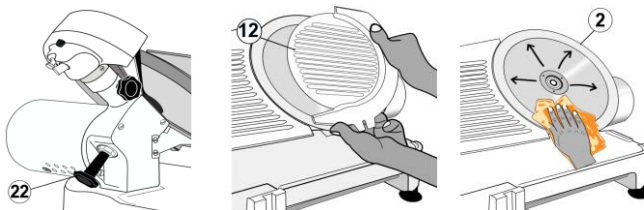

FIG 9. STEPS FOR KNIFE CLEANIG
C. KNIFE (See Fig. 9).
- 1.- Loose the knife guard knob (13) by turning it counter clockwise. Knob's at the backside of slicer.
- 2.- Remove the knife guard (4) (lifting up using both hands).
- 3.- With **extreme caution**, wipe all the knife (5) towards outside (from center). Spray, clean and dry as necessary.